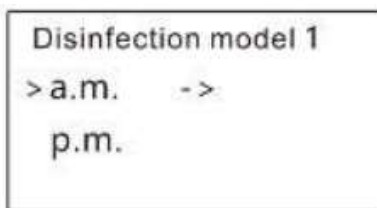
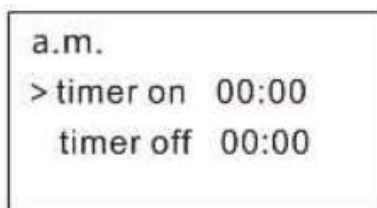
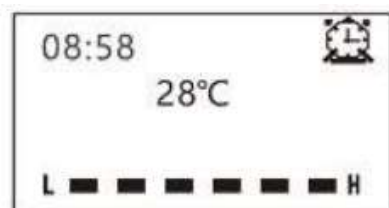

Figure 9
Figure 8
Figure 7
e. When set Timer-1, the start time and end time setting are required, divided into morning and afternoon. Press view button to page 1/2. Move the cursor to Timer-1. Press view button into morning time setting (shown as figure 9). Press view to set the start morning session running time by -/+ buttons (1-12 hours), same to set end time (shown as figure 8). Save and back to clock LCD, is shown, as (figure 7). Timer-1 is running. Note: end time must be larger than start time, or system defaults no setting time.